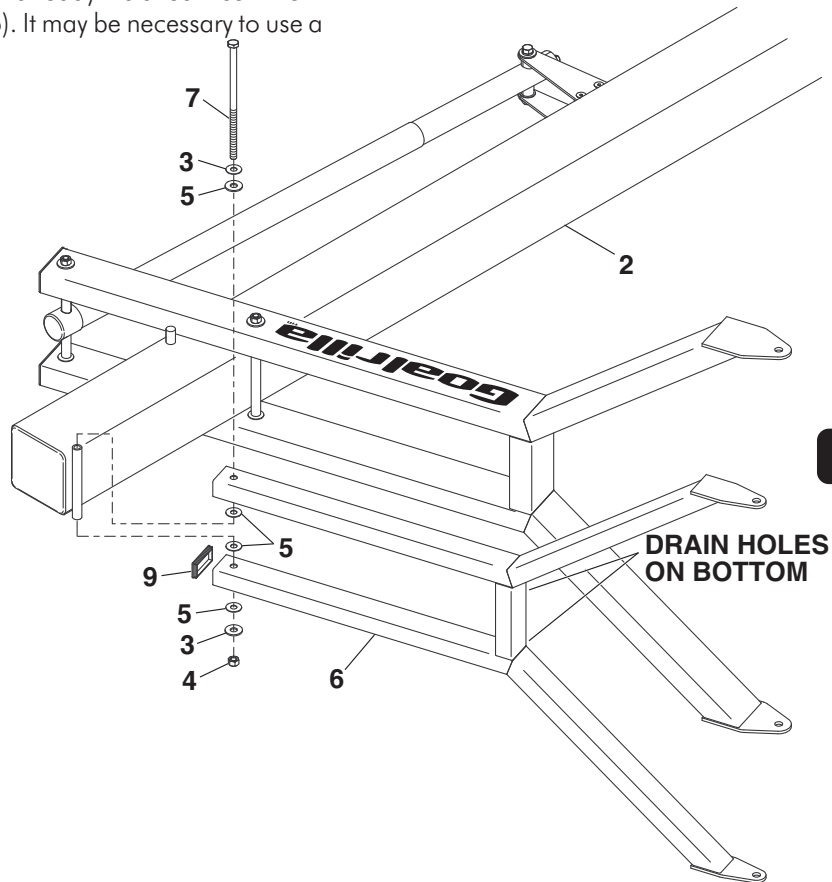

Figure 7
- Attach Upper Arm (#6) to Pole (#2), as shown in Figure 7, using a bolt (#7), two flat washers (#3), four plastic washers (#5) and hex nut (#4).